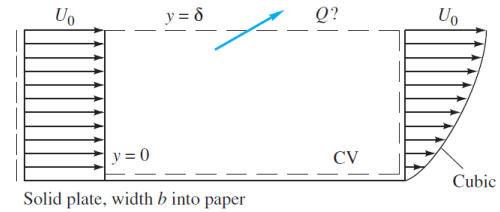

Fig. 3.3
3.2 The open tank in Fig. 3.3 contains water at 20°C and is being filled through section 1. Assume incompressible flow. First derive an analytic expression for the water-level change dh/dt in terms of arbitrary volume flows (Q_1 , Q_2 , Q_3) and tank diameter d . Then, if the water level h is constant, determine the exit velocity V_2 for the given data $V_1 = 3$ m/s and $Q_3 = 0.01$ m³/s.
3.3 An incompressible fluid flows past an impermeable flat plate, as in Fig. 3.3, with a uniform inlet profile $u = U_0$ and a cubic polynomial exit profile